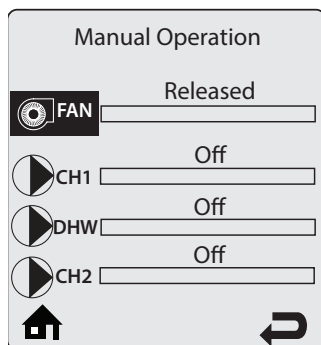

Fig. 6: CTRLMax Manual Operation
4. Press the CENTER button while the FAN icon is highlighted to manually fire the burner and power the CH circulator. See Fig. 6